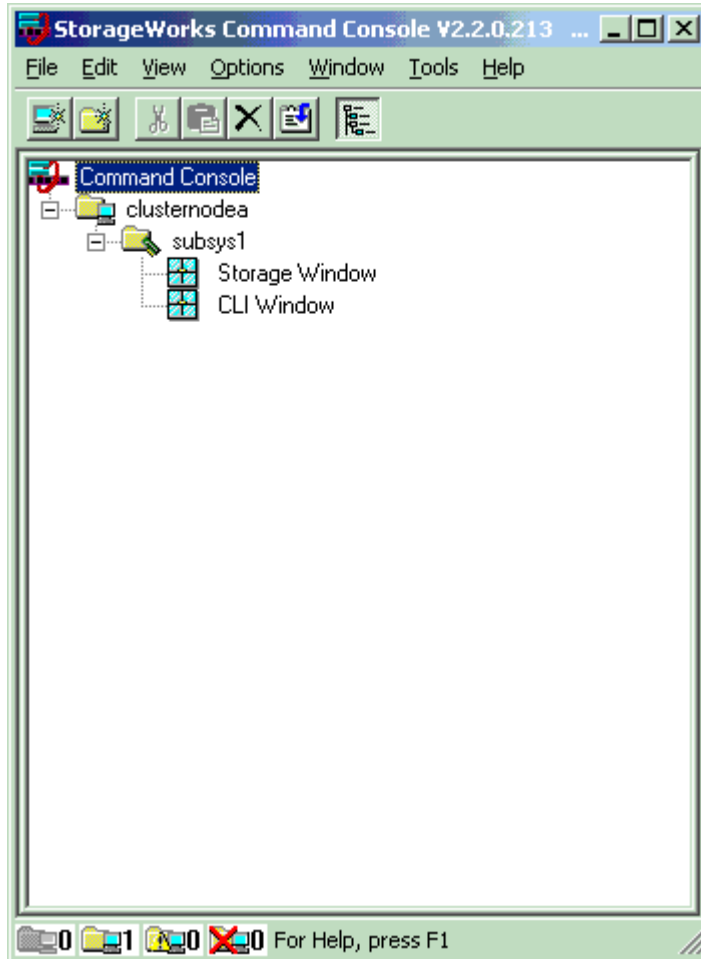

Figure 10: StorageWorks Command Console window
4. SWCC will start up, and display the main window, as shown in Figure 10.